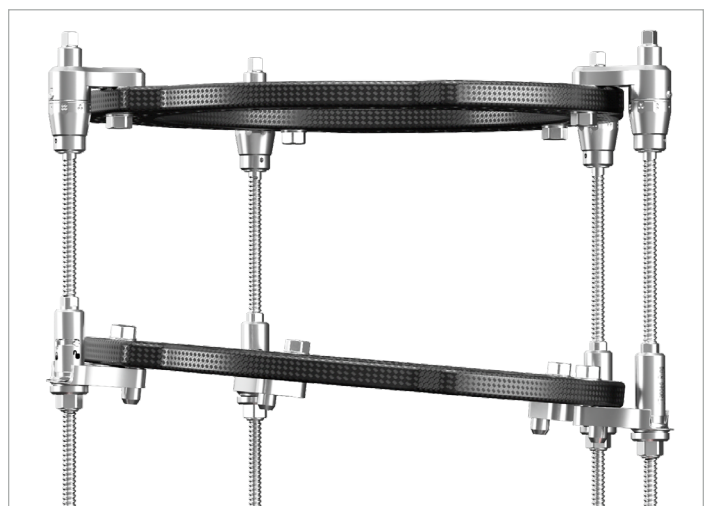

Figure 192
- If needed, the range of motion permitted by the moving ring mounting arms' ball joints allows the moving ring to be applied in a non-orthogonal fashion. **(Figure 192)** To unlock the ball joints, use the 10mm end of the spanner wrench to loosen the ball joint release nut. Repeat on all four struts.